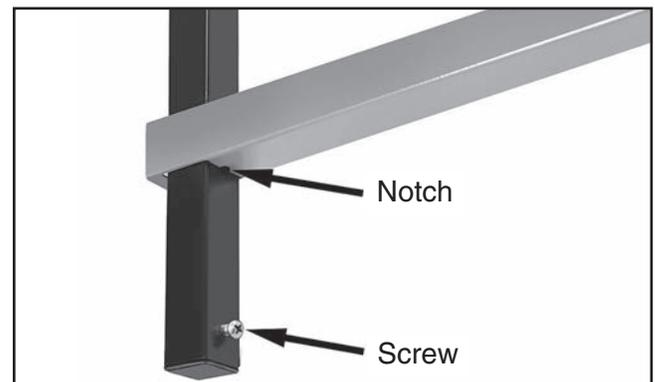

Figure 2. Horizontal bar sliding into place.
1. Locate small mounting hole 3/8-inch from bottom of vertical bar (see **Figure 2**).
2. Thread (1) M5 x 16 tap screw fully into hole, and slide a horizontal bar (with notch-side-down) down vertical bar until it rests on screw (see **Figure 2**).